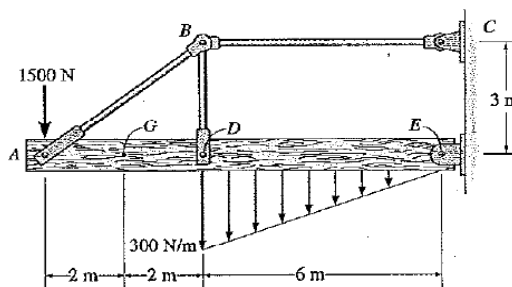

Figure 4.1
**Ví dụ 04:** Determine the resultant internal loadings acting on the cross section at  $G$  of the wooden beam shown in Fig. 4.1. Assume the joints at  $A$ ,  $B$ ,  $C$ ,  $D$ , and  $E$  are pin connected.